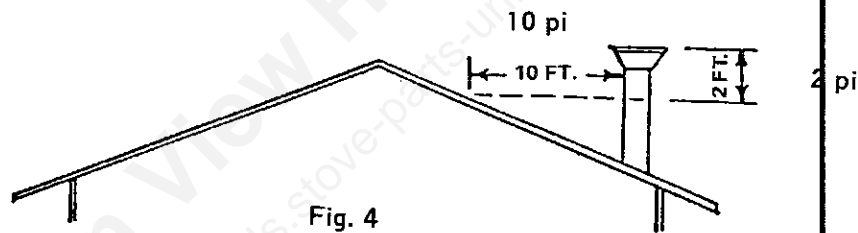

Fig. 4
1. Make sure chimney is high enough to give sufficient draft. Chimney must extend at least 2 ft. above peak of roof or any part of roof within 10 ft. horizontal distance from chimney. Also, keep chimney and smokepipe clean. SEE FIG. 4.